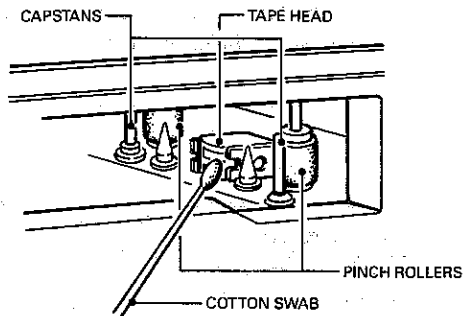

Fig. 8
8. Clean the head, pinch rollers and capstans after approximately 50 — 80 hours of use, with a cotton swab moistened with head cleaner (Fig. 8).